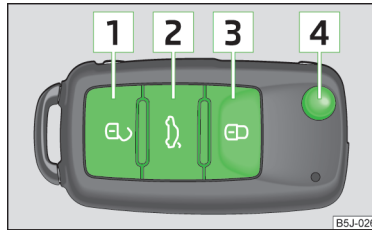

Fig. 34
- Press button **1** » Fig. 34.
- Press button **3** » Fig. 34.
- Press button **3** » Fig. 34 twice within 2 seconds. Further information » page 49.
- Press button **2** » Fig. 34. Further information » page 55.
- Press button **4** » Fig. 34.
- Press the button **4** » Fig. 34 and fold in the key bit.
The turn signal lights flash twice as confirmation that the vehicle has been unlocked. If the vehicle is unlocked using button **1** » Fig. 34 and none of the doors or the tailgate are opened within the next 30 seconds, the vehicle is